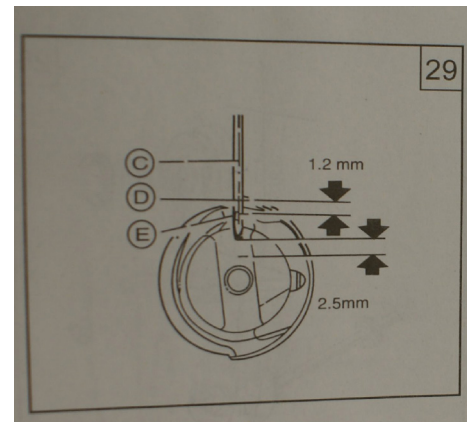

Figure 86
Step 14: With the hook loose reposition the needle to the lowest position. Rotate the hand wheel counter clockwise to bring the needle up 2.5mm (1/8") *see figure 86*